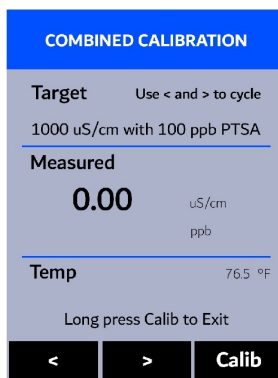

Figure 16.
4. Press **OK** to launch the **COMBINED CALIBRATION** screen (Figure 16).